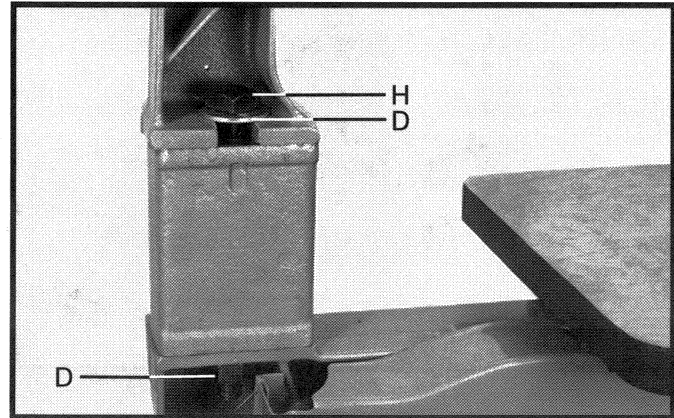

Fig. 7
6. Use the 9" square head screw (H) Fig. 7 (supplied) and the flat washer, lockwasher, and nut (D), removed in STEP 2 to fasten the upper and lower arms together.